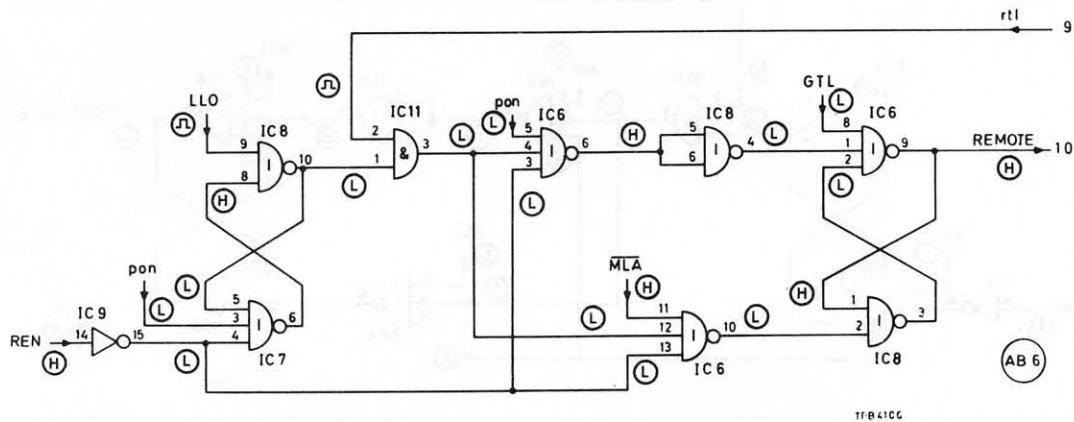

Fig. 2 'LLO fault' logic levels (LLO pulse occurs when analyser EXECUTE button is pressed, rtl pulse occurs when instrument C key is pressed).
- (1) Place AB6 on extender board and switch on. Set DIO lines to MLA and with REN and ATN at 1 press EXECUTE (REMOTE lamp comes on).
- (2) Set DIO lines to 00010001 (LLO). Check AB6 IC8 pin 9 for positive pulse each time EXECUTE is pressed. If not present, go to 'Data input and message decoder fault'.
- (3) Localize fault by comparing logic levels with those shown in Fig. 2.